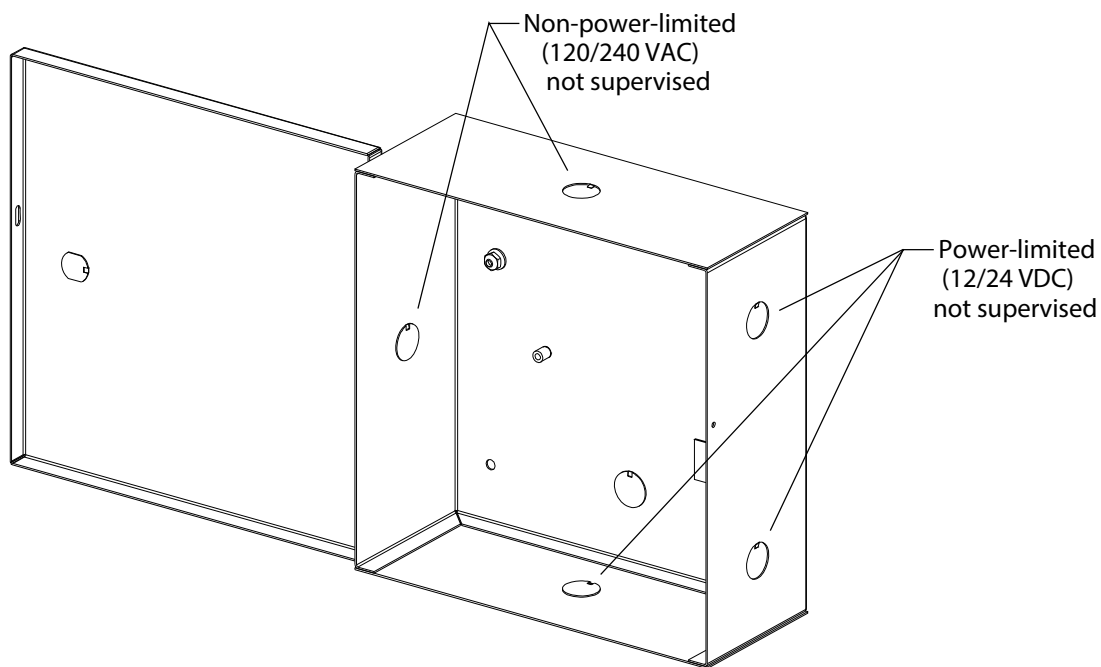

Figure 1
- 3.5. Connect the load to the DC OUTPUT terminals + (positive) and – (negative) through the knockouts indicated in Figure 1.
- 3.6. Connect AC input wires to AC input terminals through the knockouts indicated in Figure 1.